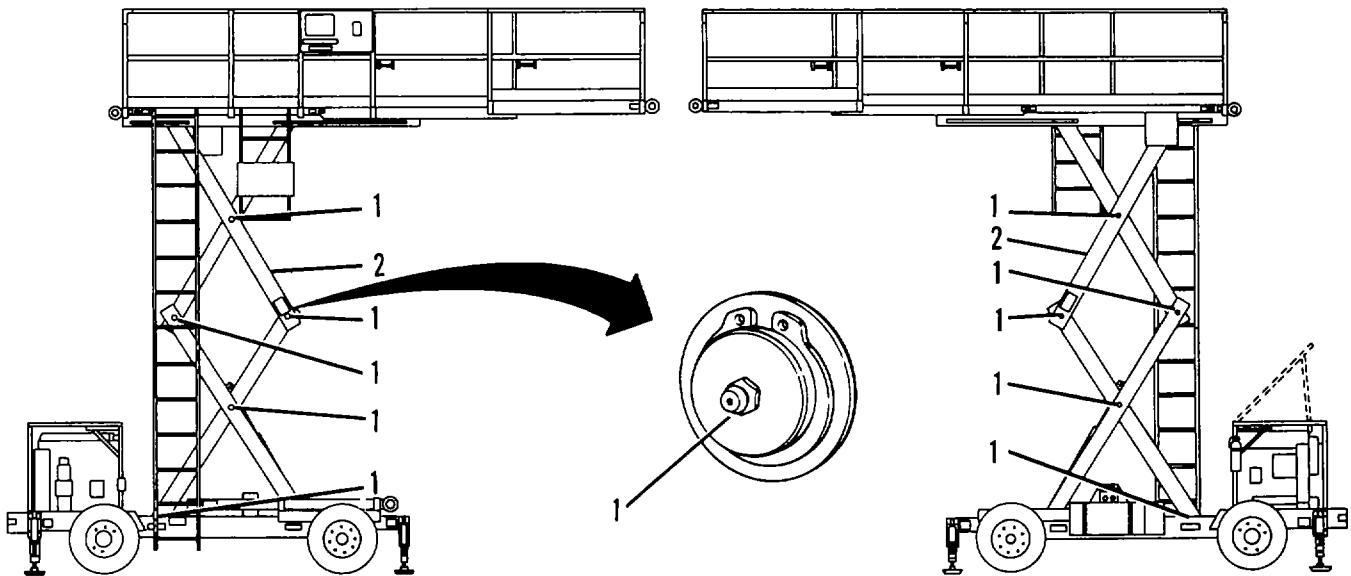

Figure 4-42. Scissors Shafts, Grease Fittings.
- (1) Disassembly: Remove grease fitting(s) (1, Figure 4-42) from scissors (2).
- (2) Assembly:
- (a) Install grease fitting(s) (1) in scissors (2).